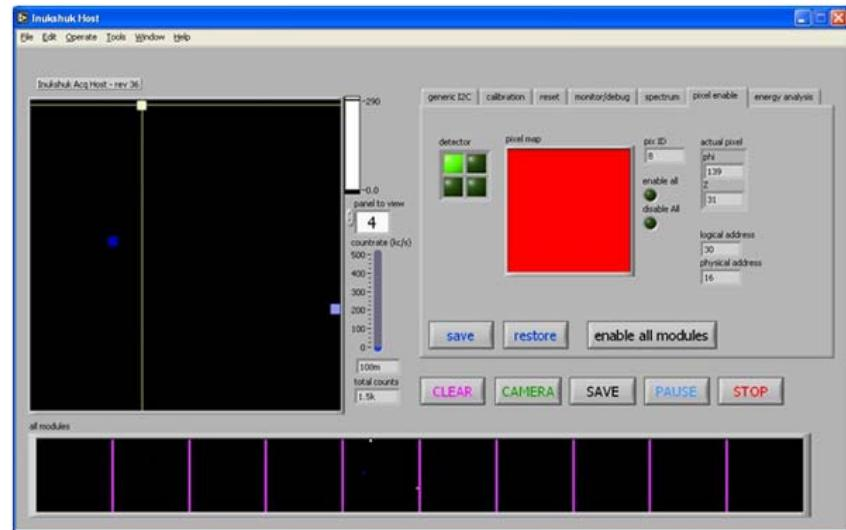

Figure 7-6
- F.) Change to the pixel enable tab (Figure 7-6).
1. Click the enable all modules button (Figure 7-6) on pixel enable tab to re-enable all pixels simultaneously.